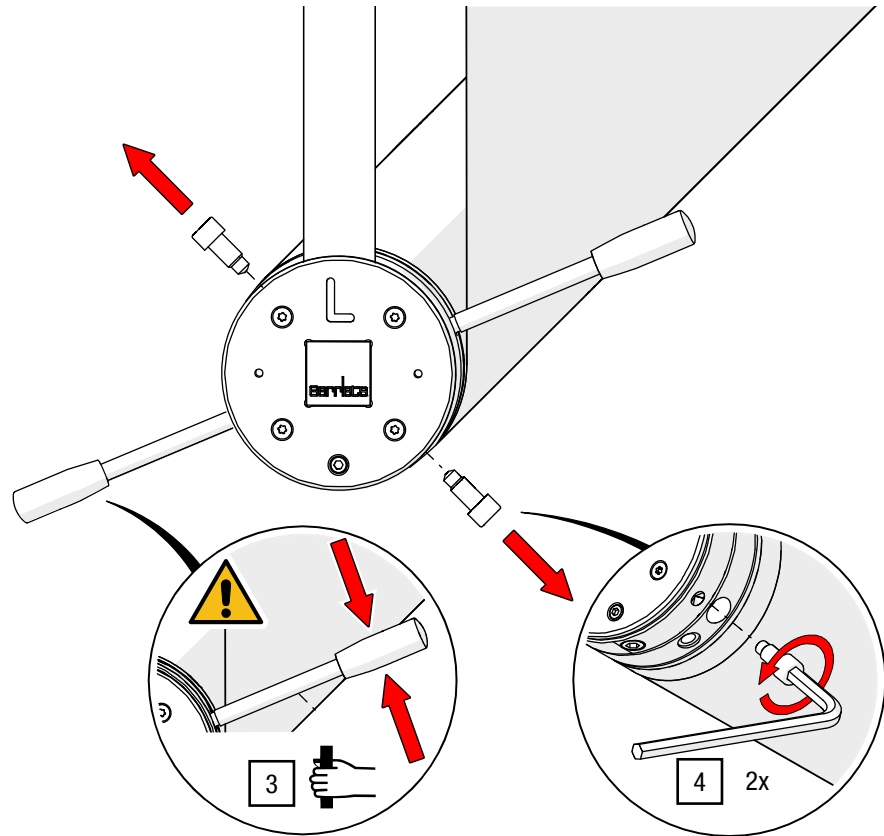

Fig. 31: Hold the clamping lever and loosen the locking screws
3. Take the handle of at least one clamping lever firmly in your hand and hold it firmly (see Fig. 31).
4. With a second person, loosen the locking screws on the clamping ring using an Allen key AF 10 (see Fig. 31).